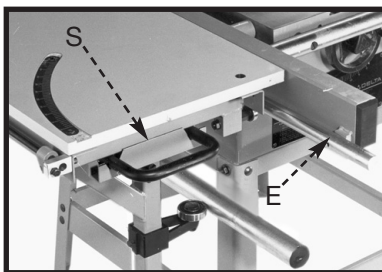

Fig. 33
8. Slide the table assembly on the upper rail with the handle (S) Fig. 33 in the front position.